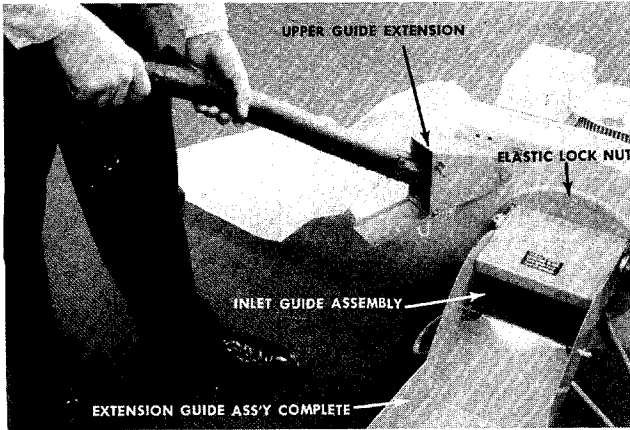

FIGURE 3. FEEDING MATERIAL INTO UPPER GUIDE
A steady flow of material provides the best results. Bulky material, such as stalks or heavy branches, should be fed into the upper guide extension. See figure 3.
1. Remove guide extension assembly by removing four elastic locknuts. See figure 3.